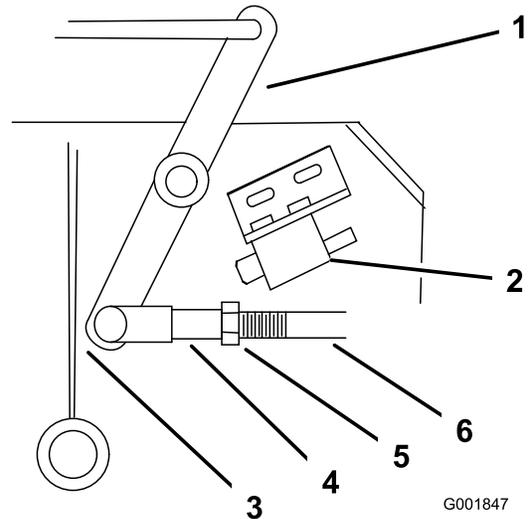

Figure 48
- Adjust the linkage length to where the lower end of the bellcrank just clears the axle support gusset (Figure 48).
9. Loosen the nut against the yoke (Figure 48).